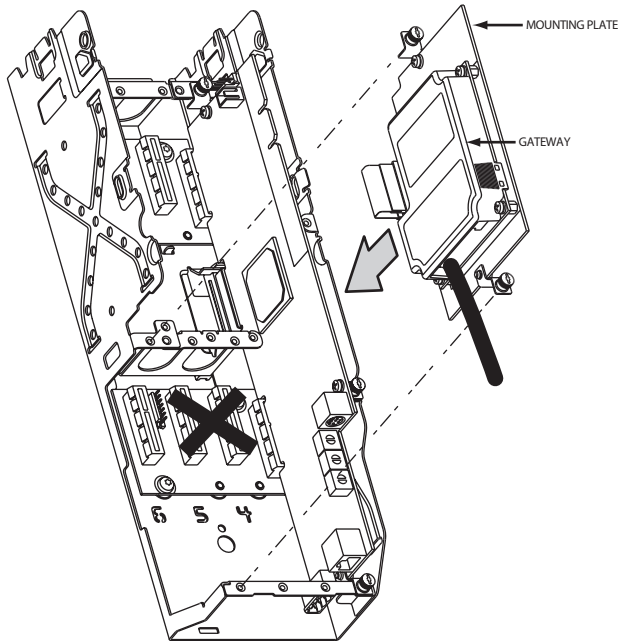

Fig. 27 — Mount COMM Card Plate to Drive
5. Mount the new COMM card and mounting plate and attach with the 2 screws removed in Step 4. See Fig. 27.